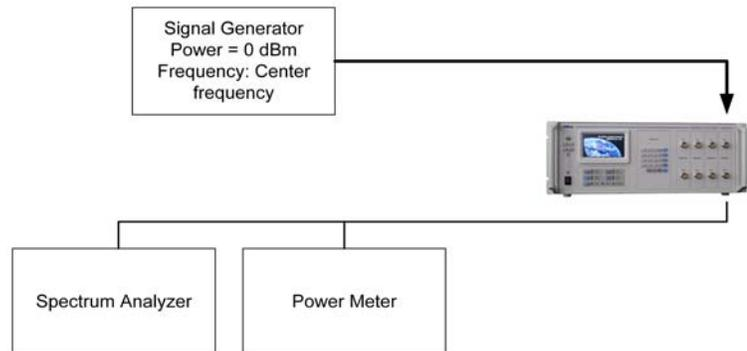

Figure A-1 Frequency Range Test Configuration
1. Connect the equipment as shown in Figure A-1. The SLE900 should be in static mode, with delay set to 2 ms and all other parameters set to 0.
1. Connect the equipment as shown in Figure A-1. The SLE900 should be in static mode, with delay set to 2 msec and all other parameters set to 0.
1. Connect the equipment as shown in Figure A-1, with the frequency counter replacing the spectrum analyzer. Set the SLE900 to static mode, with delay set to 2 msec and all other parameters set to 0.
1. Connect the equipment as shown in Figure A-1, with the signal source disabled. The SLE900 should be in static mode, with delay set to 2 msec, attenuation set to 0, frequency offset set to 0.